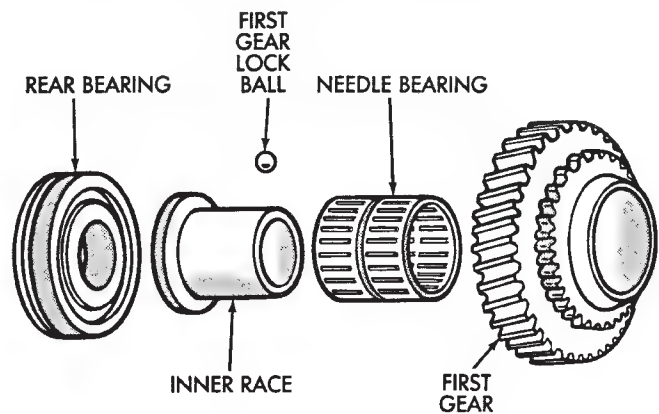
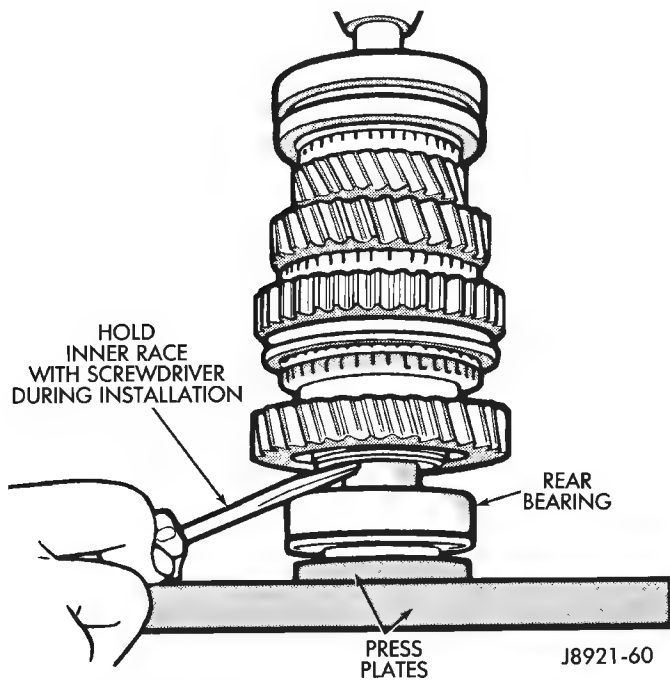

Fig. 52 Assembling First Gear Components
Fig. 53 Installing Output Shaft Rear Bearing
(12) Assemble first gear, synchronizer ring, gear needle bearing and inner race (Fig. 52). Then install assembly on output shaft. **Rotate inner race until aligned with locking ball.**
(13) Press rear bearing on shaft (Fig. 52). Snap ring groove in bearing goes toward rear. Use screwdriver to hold inner race in position when installing bearing (Fig. 53).
(14) Install snap ring on rear bearing.